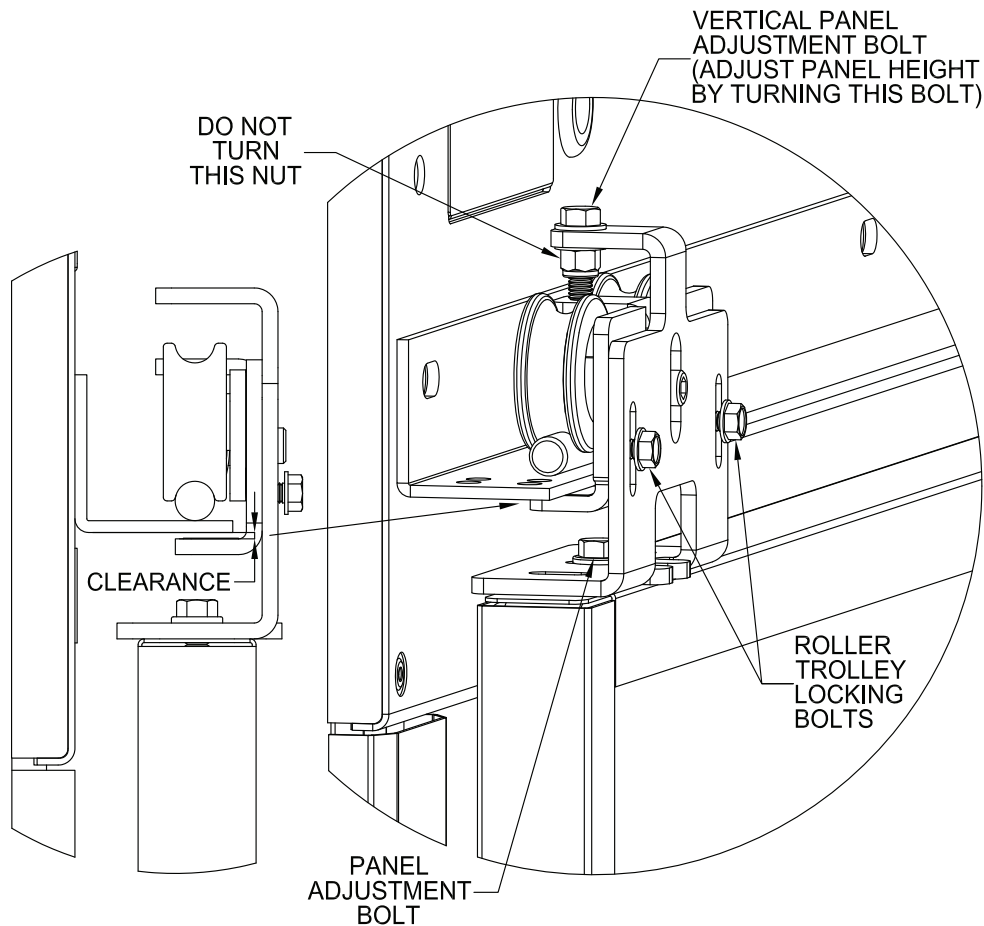

Figure 9: Attaching Panel to Header
1. Loosen the two horizontal panel adjusting bolts on top of each panel(s). These bolts will slide between the two forks on the panel trolley bracket in the header (Figures 9 & 10).
5. Back off the roller trolley locking bolts on both panel trolleys and use the vertical panel adjustment bolts to position the panel at the desired height. The panel gasket should have contact with the floor for proper sealing. Tighten the locking bolts to secure the panel. Make sure there is clearance between rail and both anti-jump tabs on both trolleys, see Fig. 9.